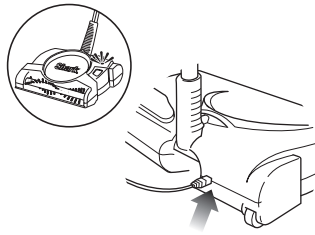

Fig. 3
- 2 Insert the charger plug into the hole on the back of the unit. Plug the charger into a wall outlet. The light next to the power button will illuminate when the unit is charging. If the unit is plugged in and the light is not illuminated, press the power button once. The light should now be illuminated indicating that the unit is charging. (Fig. 3) Once the charge is completed, the light will go off.